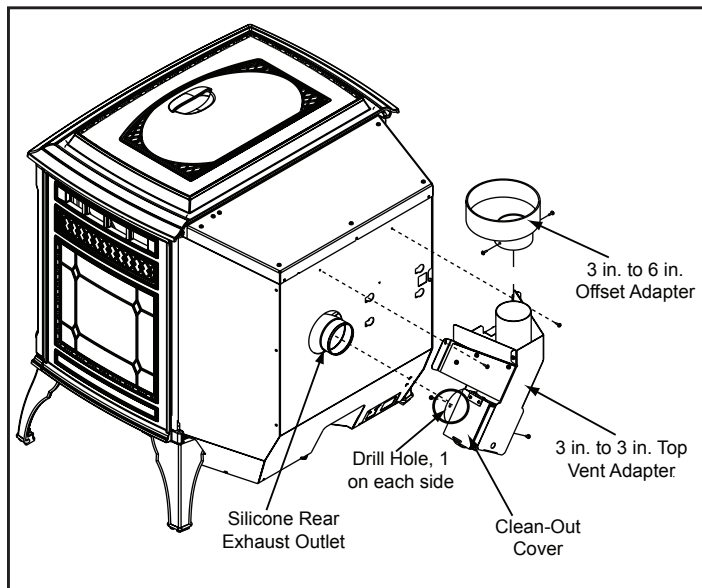

Figure 18.1
1. Put a layer of high temperature silicone on the 3 inch (76mm) exhaust outlet. **Do not put silicone inside of pipe. Figure 18.1**
2. Slide the top vent adapter onto the rear exhaust outlet and adjust the assembly to a vertical position until the top of the flue outlet is centered and is in a level position. **Figure 18.1**